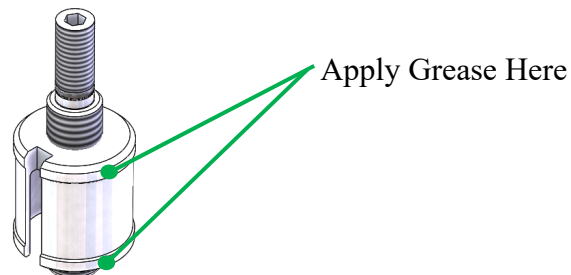

Figure 51: Adjustment Bushing
18. Lightly coat the outer surface of the adjustment bushing with a water-resistant grease similar to Aqualube. See Figure 51.